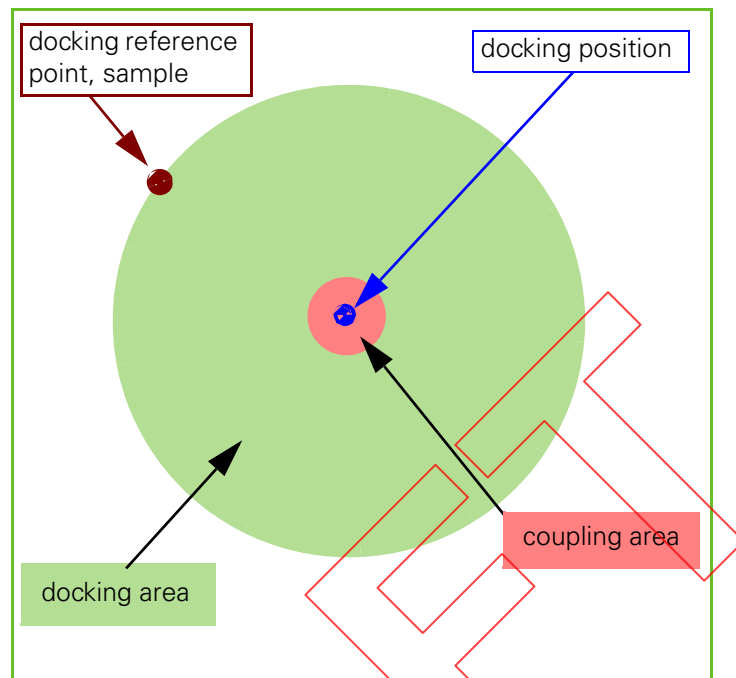

Figure 13-9. Automatic Docking Areas and Positions
- **Fetch:** to move the vacant PPS horizontally towards the docking position and vertically up until the PPS coupler touches the coupler of the docking device supported by the trolley. Any fetch movement passes by the docking reference point (see Figure 13-9).
- **Put back:** to move the PPS, loaded with a loaded docking device, horizontally towards the docking position and vertically down to deposit the docking device on a vacant trolley that is waiting there. Any put back movement passes by the docking reference point (see Figure 13-9).